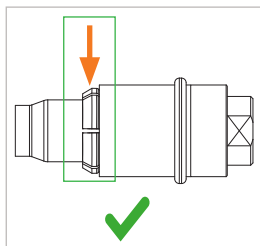

Figure 3
- ▶ Hold the connector by the lower part (Pos. 2) and the grip sleeve (Pos. 1) pulled back. Press the hose into the connector until the clamping jaws (Pos. 3) snap together (Figure 3).